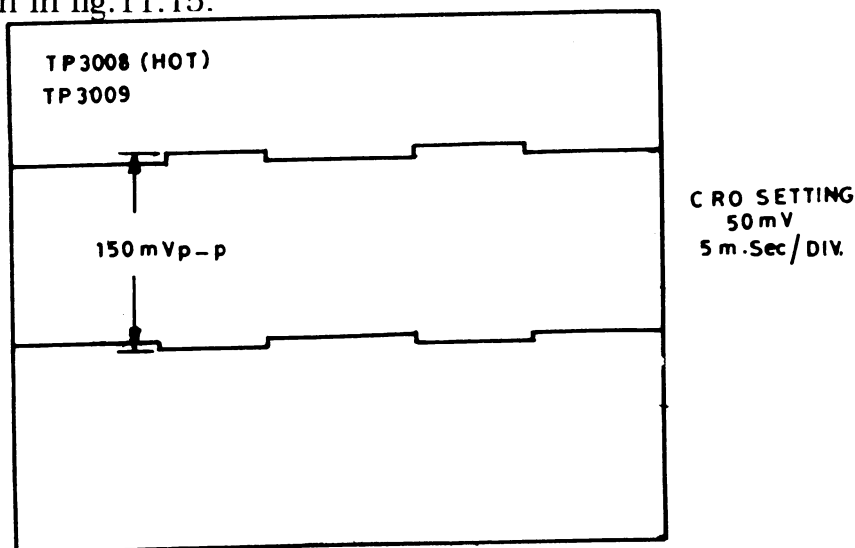

Fig. 11.15
5. Remove the jumper and adjust and luma signal current control R 3020 so that the wave form becomes 150 mV P-P as shown in fig.11.15.